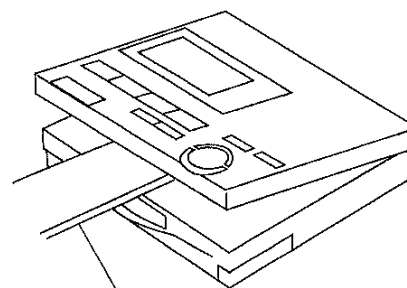

Fig.5
3. Set the laser power meter. (refer to Fig.5)